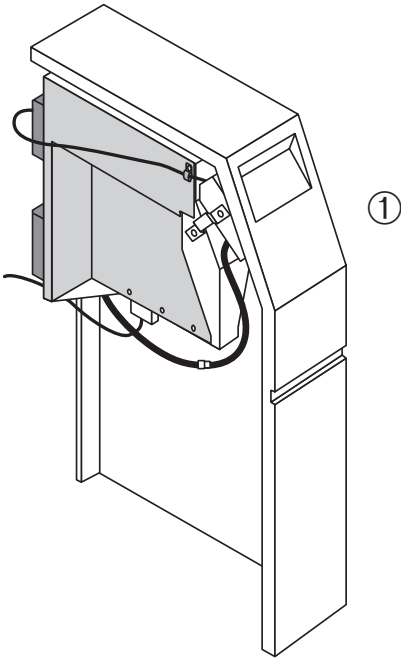

Figure 1-12 Interface cable.
4. Route the cable into the imagesetter electronics compartment and fasten the "P" clamp to the bottom modem mount bracket screw closest to the door as shown in Figure 1-12.